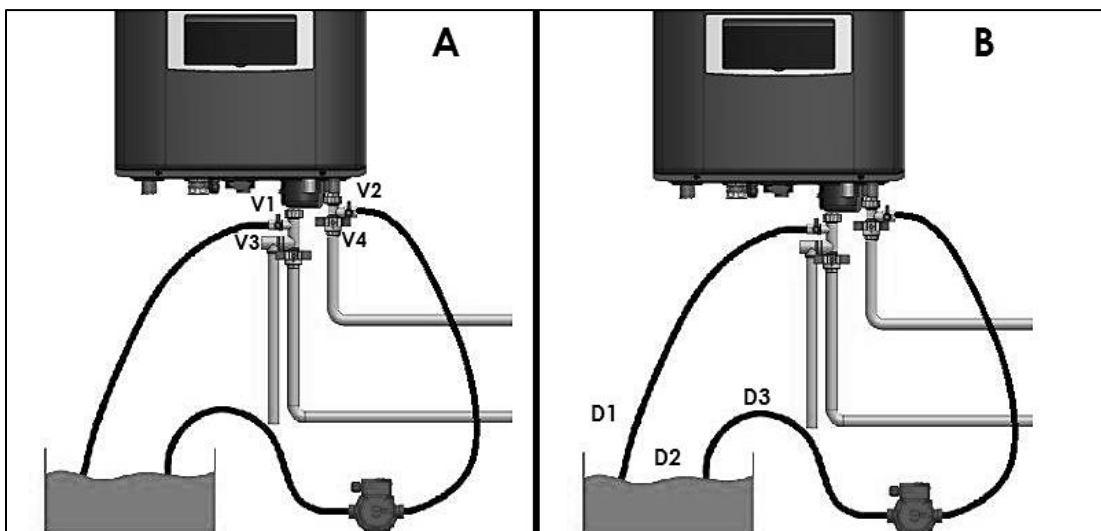

Figure 50 – A – Valve, and B – Hose Connection Details
2. Close the shutoff valves on both hot water outlet and cold water inlet lines (V1 and V2). See Figure 50-A.
3. Connect one hose (D1, Figure 50-B) to the valve (V3) and place the free end in a bucket. Connect one of the hoses (D3) to the circulation pump outlet and the cold water inlet line to valve V4. Connect the other hose (D2) to the circulation pump inlet and place the free end in the bucket.